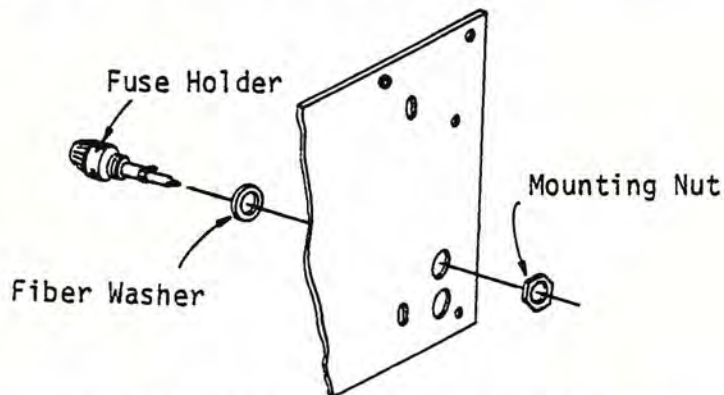

Figure 5-55 Fuse Holder Installation
The following instructions describe the installation of the mounting and wiring of the back panel bridge rectifier. Figure 5-55 further defines the installation. Do not use excessive force when screwing down the bridge rectifier.
4. Using figure 5-55 as a guide attach the A size terminal ends to the bridge rectifier terminals. Using masking tape label the 4-inch wires 13 and 15, and the 19-inch wires, 14 and 12. Attach wire 15 to the upper left terminal and wire 13 to the lower right terminal. Attach wire 14 to the upper right (-) terminal and wire 12 to the lower (+) terminal.